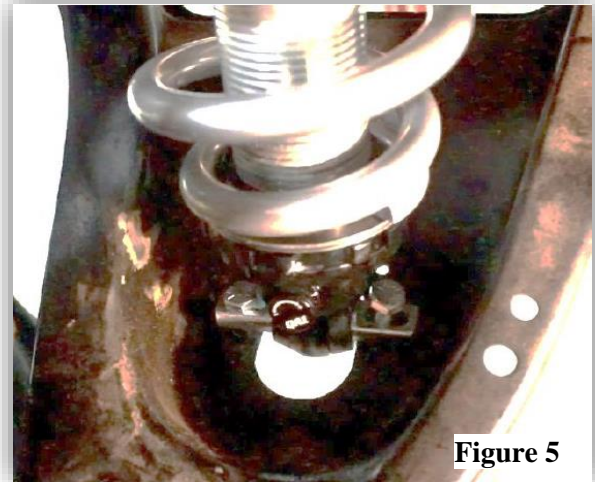

Figure 5
8. GM Cars: With a jack under the lower control arm, raise the lower control arm up to the lower shock mount and install the supplied 3/8" bolts. The t-bar must be mounted on the top side of the control arm. **(Figure 5)**